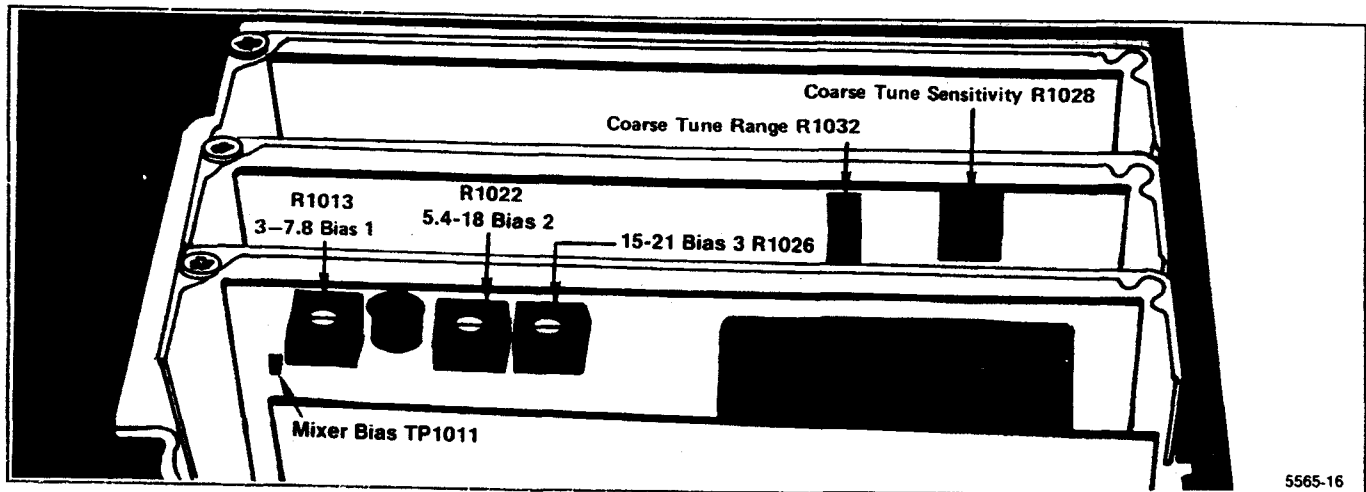

Figure 6-27. 1st LO Driver board adjustment and test point locations.
b. Monitor TP1011 on the 1st LO Driver board with a voltmeter (meter ground at crt shield). See Figure 6-27 for the location of TP1011.
d. Preset Bias 2 R1022 (Figure 6-27) for a meter reading of -0.25 V.
f. Preset Bias 3 R1026 (Figure 6-27) for a meter reading of -0.25 V.